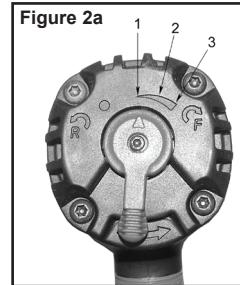

Figure 2a
5. Adjust the torque on the impact wrench by turning the torque regulator knob clockwise to the desired torque setting (1 = minimum torque/ 3 = maximum torque) (see Figure 2a). Set the torque regulator knob to 3 (maximum setting) to remove nuts.